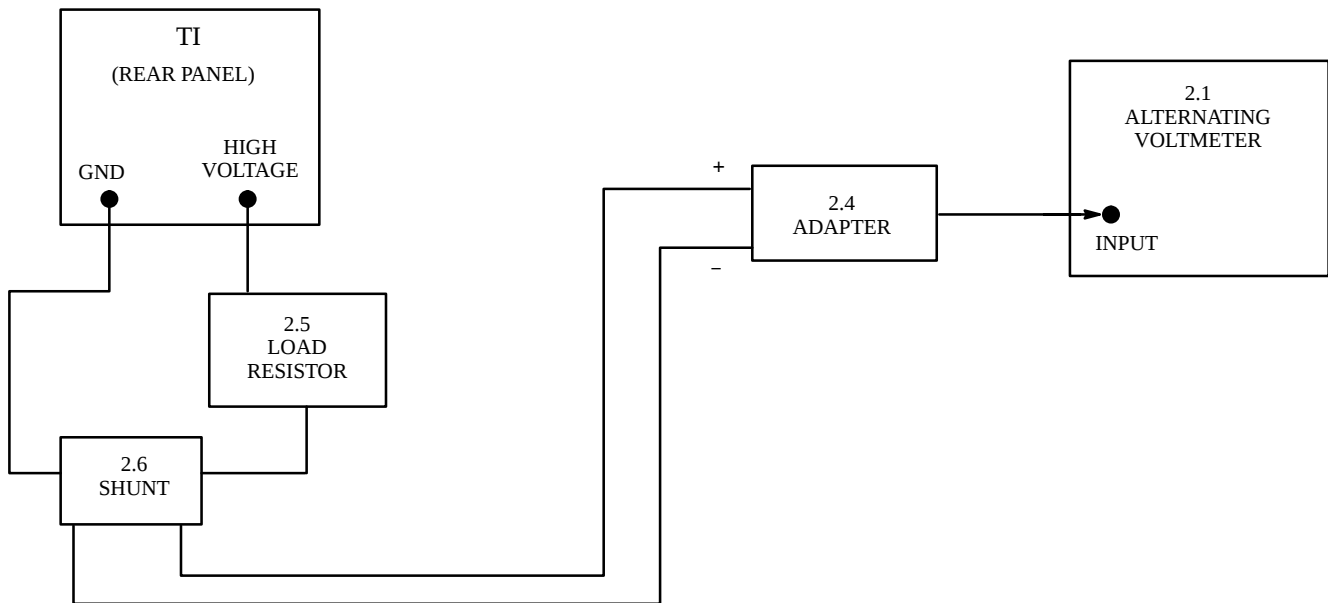

Figure 3. Current Meter Measurement Configuration
4.2.1 Connect the equipment as shown in Figure 3.